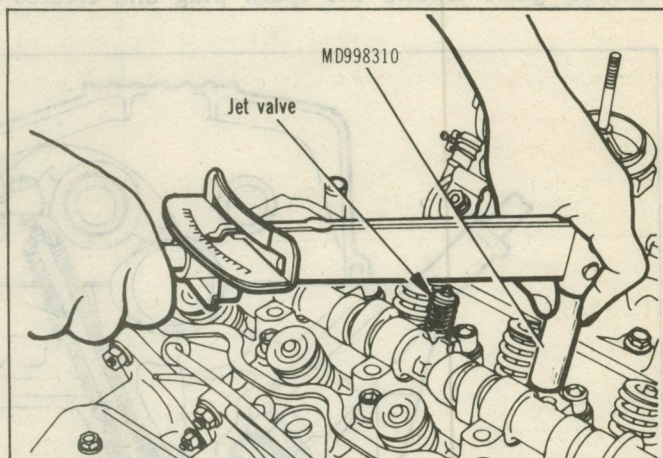

Fig. 10 Removing the Jet Valve Assembly
(2) Remove the jet valve assembly using jet valve socket wrench. (special tool MD998310). (Fig. 10)